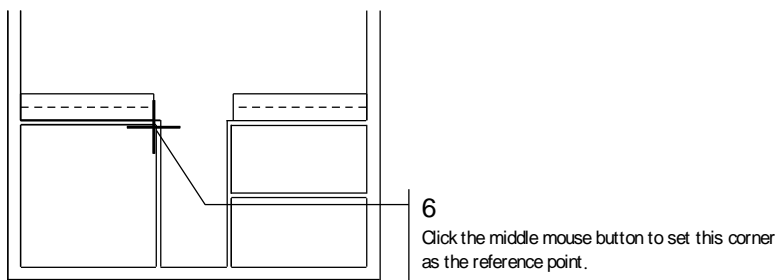

Figure 3.35: Setting a reference point.
6. Click the middle mouse button near the upper-right corner of the first room you drew, as shown in Figure 3.35. Stay close to the inside of the corner. This will be your reference point. You are prompted to *Select hinge side of door*.